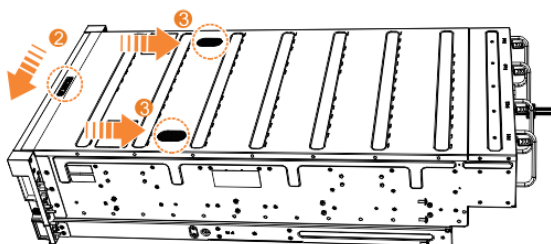

Figure 122. Replacing the top cover
7. Push the cover release lever to the side (2) as shown in Figure 122 on page 177.
8. Slide the cover towards the back of the enclosure (3) back until it stops, as shown in Figure 122 on page 177.